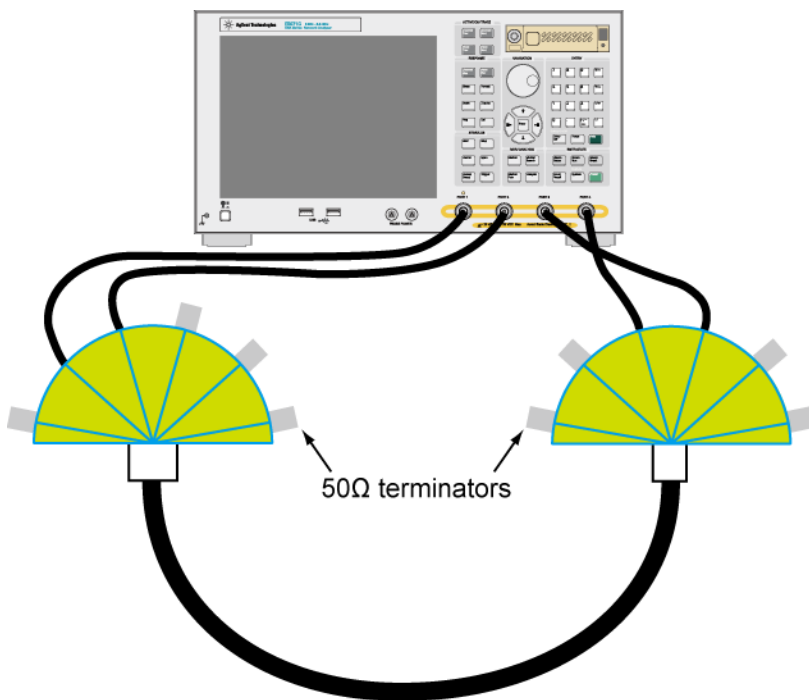

Figure 5-4 Connection Example for Cable Impedance measurement
1. Connect the test fixture to the test port cables according to the Figure 5-4 Connection Example for Cable Impedance measurement. Unused terminals should be terminated.